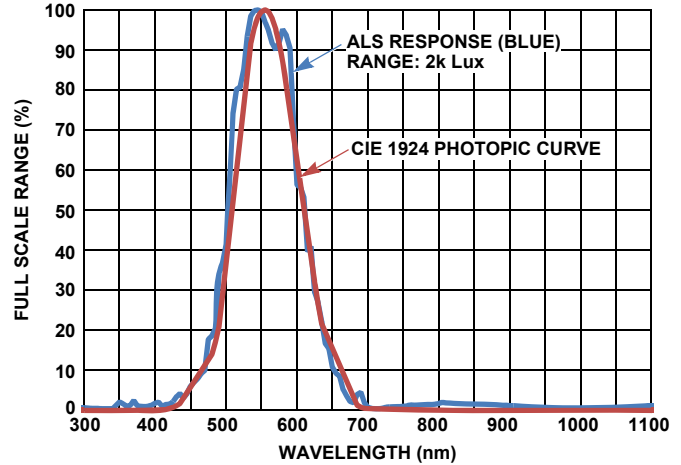

FIGURE 7. ALS SENSITIVITY (Note 13)
13. Figure 7 shows ISL29038 Ambient Light Sensor Spectral response when compared to a theoretical CIE 1924 Photopic curve. The 'Blue' line shows the ISL29038 response and the 'Red' line depicts the CIE 1924 Photopic curve.